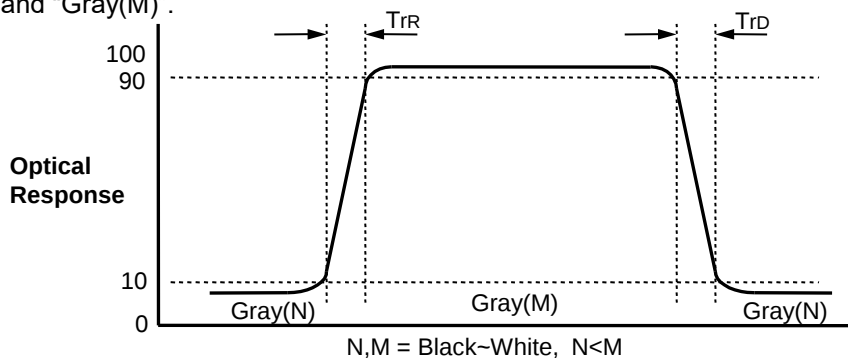

FIG. 3 Response Time
4. Response time is the time required for the display to transit from G(N) to G(M) (Rise Time, Tr_R) and from G(M) to G(N) (Decay Time, Tr_D). For additional information, see the FIG. 3. ($N < M$)